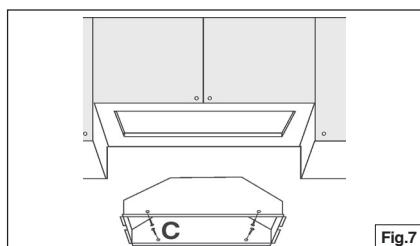

Fig.7
4. Insert the hood in the cabinet (Fig.7) and lock in to position using the side spring.
5. Secure the hood with (4) "C" mounting screws.